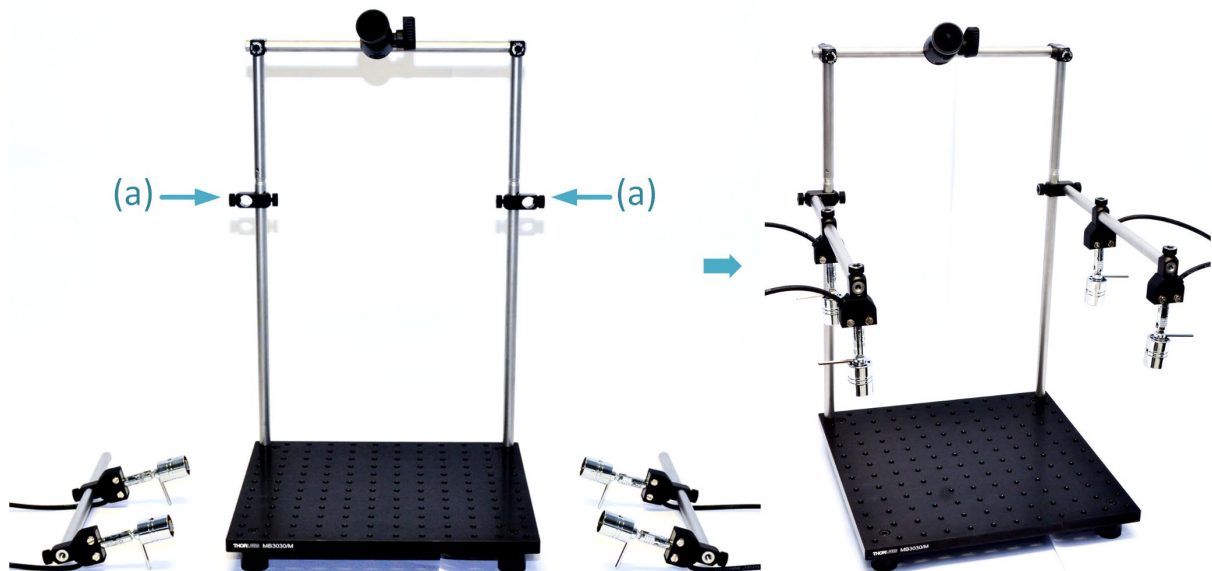

Figure 24 Mounting of lamp holders on to the setup (Step 4.2)
Step 4.2 Mount the posts on to the setup (Figure 24)